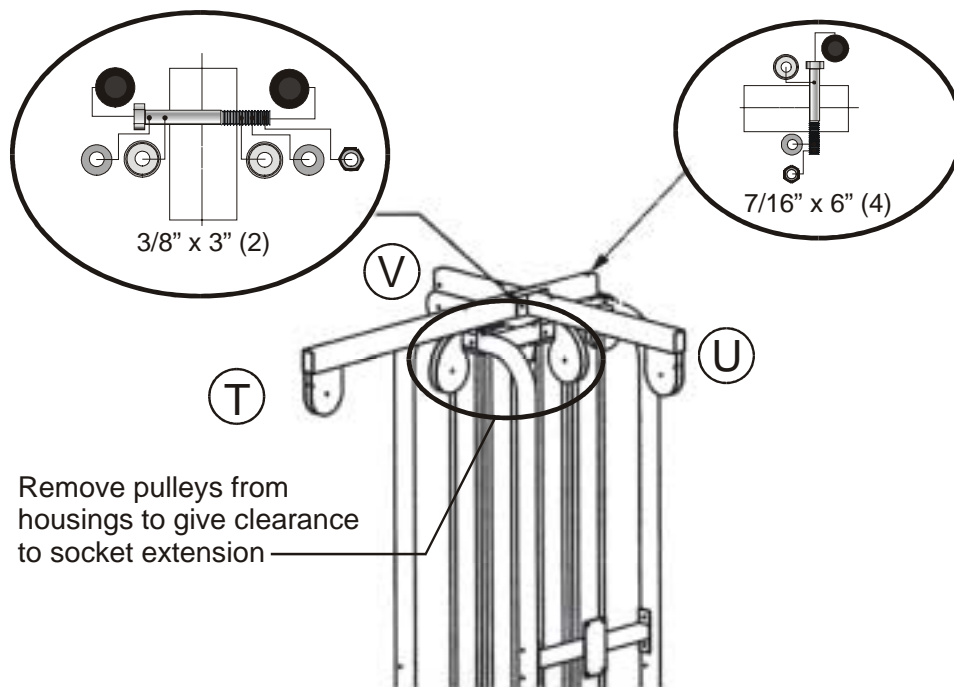

Figure 5. Mount lat top (V), tricep top (U), adjustable crossover top (V).
- 3. Mount the tops.** Mount the 56" lat top to the cell by inserting two of the large 7/16" by 6" bolts using the hardware configuration shown in Figure 5. Use a 5/8" socket with extension and combination wrench. Mount the 29" tricep top and adjustable crossover top to the frame and connecting beam. You will need to remove the pulleys from the teardrop pulley assemblies to gain clearance for the socket wrench extension. Leave the pulleys out of the housings until the cables have been installed.
Hardware Figure 5. Top assemblies.